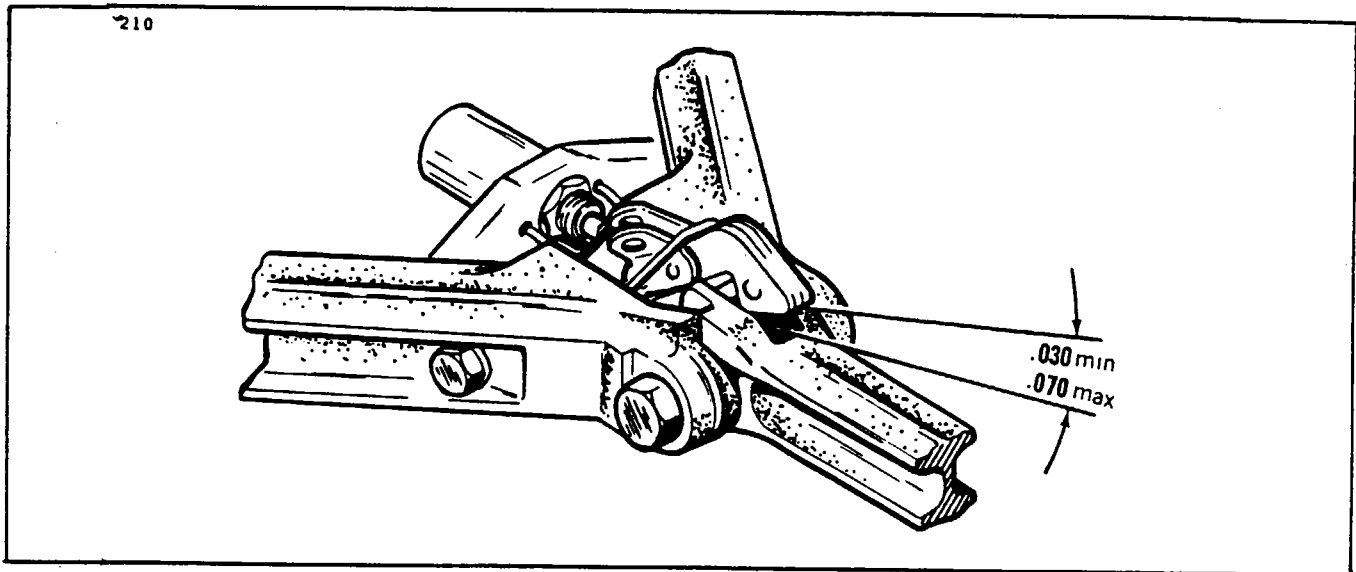

Figure 7-11. Adjusting Main Gear Down Light Switch
7-34. ADJUSTMENT OF MAIN GEAR DOWN LIGHT SWITCH. (Refer to Figure 7-11.)
2. With hook raised, place a .070 of an inch wire feeler gauge between the hook and bottom surface of the slot in the side brace link. (Refer to Figure 7-11.)